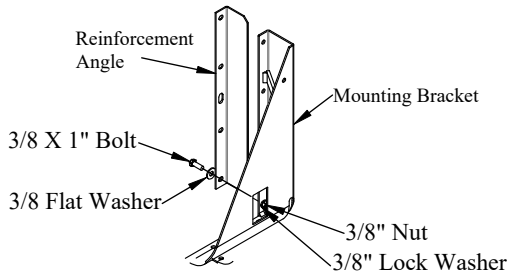

Figure 12: Mounting bracket reinforcement.
1. **Install** the bracket support angles on the mounting brackets (Figure 12).